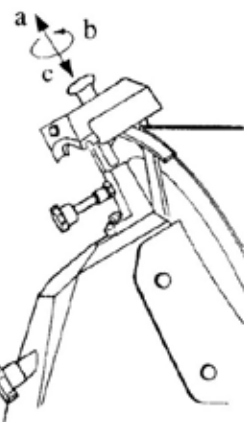

Fig. 14
6. (Fig. 14) once sharpening has been completed, switch the machine off and put the sharpening device back in its original position, following the procedure in reverse order.